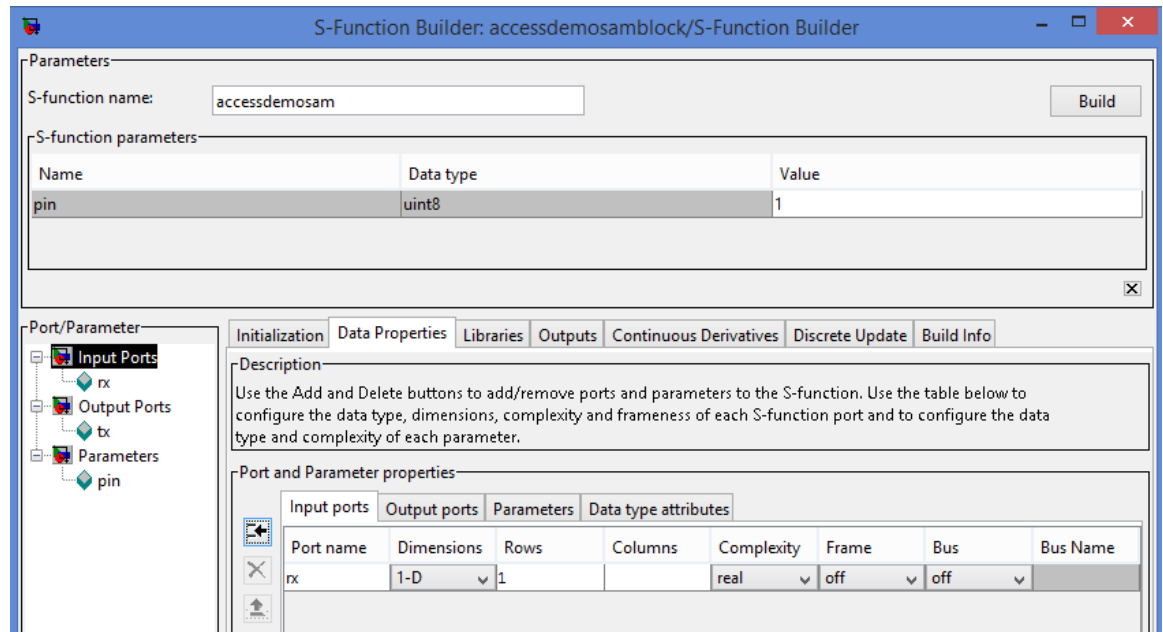
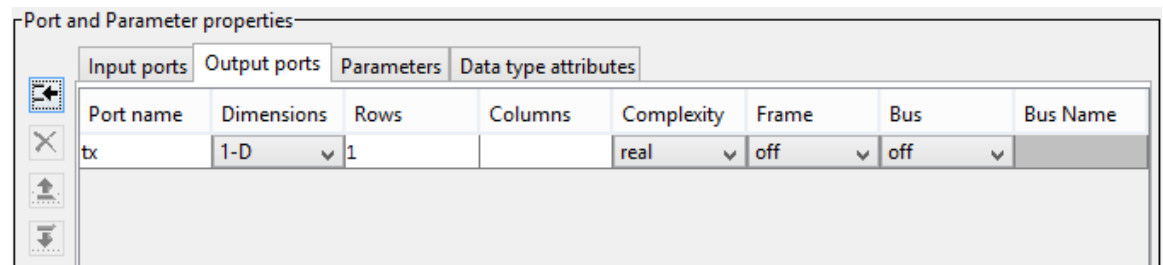
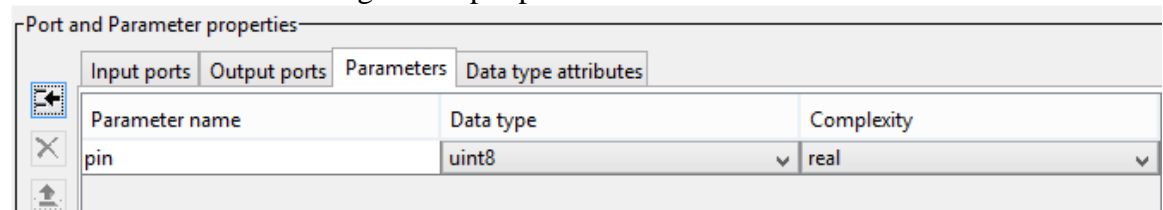

Fig.21 Input ports tab contents
Fig.22 Output ports tab contents
Fig.23 Parameters tab contents
- b. Data Properties tab: This tab consists of four sub tabs Input ports, Output ports, Parameters and Data type attributes. Depending on the input and output blocks that are connected to this block one should add the number of inputs or outputs. The contents for this block are shown in Fig.21, Fig.22, Fig.23.